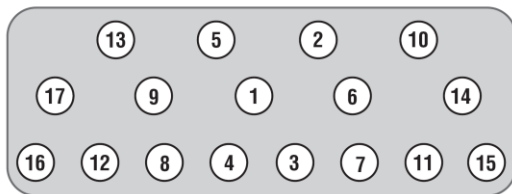

Figure 1
- Using a 1/8" drill bit, drill the steam holes as shown in Figure 1.
Place thread sealer on the head bolts, and torque the head studs in the four stages shown, following the sequence shown in Figure 1 on the following page.